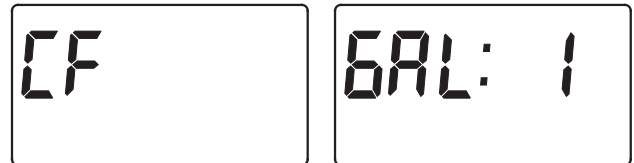

FIG. 30
4. **CHEMICAL FEEDER TRIP VOLUME:** If you have set the auxiliary output control to CF (Chemical Feeder), you will need to set the volume of water which must flow past the turbine\* before the auxiliary output is turned on. With the alternating screens in Fig. 30 shown, use the  $\triangle$  UP or  $\nabla$  DOWN buttons to set the trip volume, in gallons. Then press the SELECT button to display the screen shown in Fig. 31.